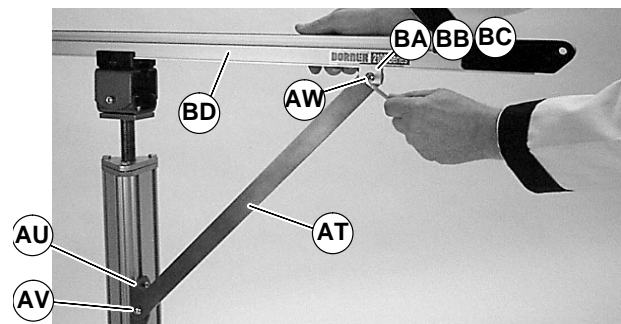
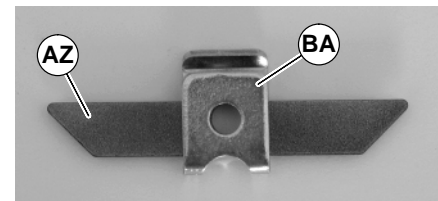

Figure 32
Figure 33
4. Attach brace (AT of Figure 32) to brace bracket (AU) with M8 screw (AV).
- 5A. For 2100 and 2200 conveyors: Attach brace (AT) to conveyor rail (BD) with 2100/2200 clip (BB) and M8 screw (AW).
- 5B. For 3100 and LPZ conveyors: Attach brace (AT) to conveyor rail (BD) with 3100/LPZ clip (BC) and M8 screw (AW).
- 5C. For 6100 conveyors: Insert belt guard (AZ of Figure 33) into 6100 clip (BA). Attach brace (AT of Figure 32) to conveyor rail (BD) with clip (BA) and M8 screw (AW).
6. Tighten M8 screws (AV & AW of Figure 32) to 80 in-lb (9 Nm).